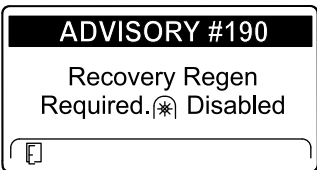

Figure 49
- Recovery regeneration required—power takeoff disabled ADVISORY #190 (Figure 49)